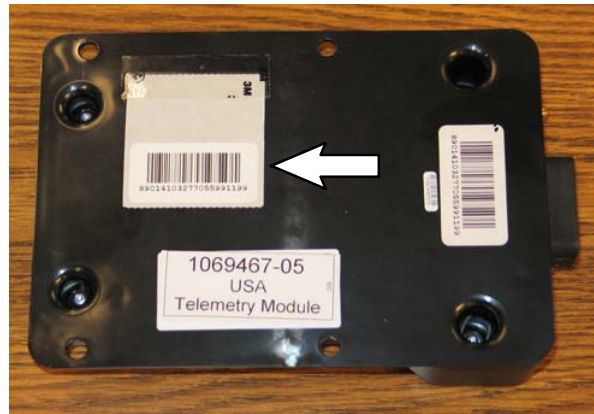

FIG. 2
1. Remove the additional SIM label from the back of the control box (1) and set label aside in a safe place. The number on the SIM label will be needed for activating the machine. (Fig. 2)